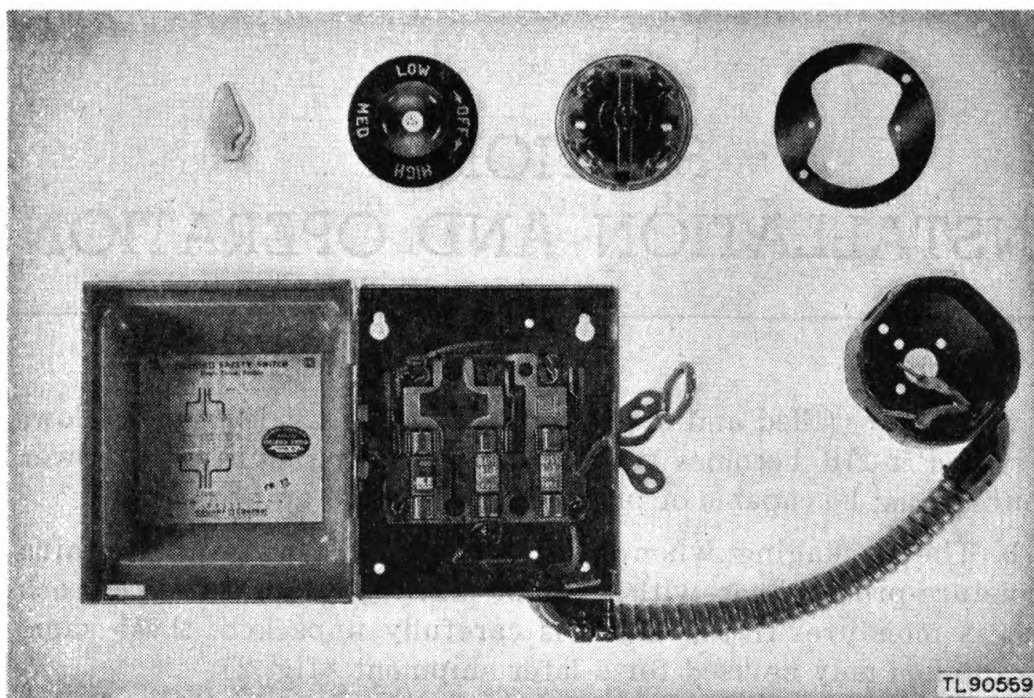
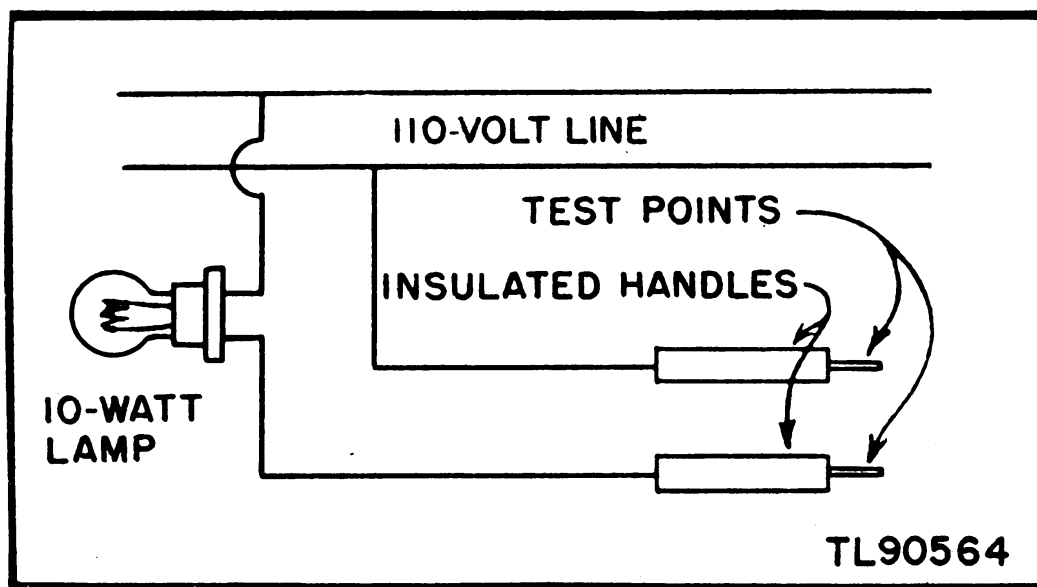

Figure 5. Switches, controls, and fuse box.
Figure 9. Test lamp set.
j. Switches. The power supply is controlled by two switches. The main switch is a 30-ampere, externally controlled safety switch. The box for this switch contains two 30-ampere cartridge fuses for the protection of the heating elements, and one 4-ampere cartridge fuse for the protection of the motor (fig. 5). This switch has two positions: ON and OFF. The second switch is either a black or white porcelain base rotary snap switch connected into the circuit supplying the heating elements. This switch has four positions: OFF, LOW, MED (medium), and HIGH, and controls the amount of heat applied to the prints through the drum surface.
c. Fuses. To inspect for burned-out fuses (fig. 5), open the safety switch box. Examine the fuses and replace any that do not complete the circuit when they are tested on a test lamp set (fig. 9). The two right-hand fuses are of 30-ampere capacity and the left-hand fuse is of 4-ampere capacity.
(2) Remove the two screws which are countersunk and which hold the switch to the spider cover of the box. Remove the switch and replace it. In replacing it, be sure that all leads are connected properly.
c. Service Cord. Inspect the service cord for a broken lead by placing the points of the test lamp set (fig. 9) on the ends of the leads. If the test lamp lights, the leads are satisfactory. If the insulation is not cut or damaged, the cord is still fit for further service. Examine the plug on the end of the cord. Do not use it if it is bent or has loose connections.